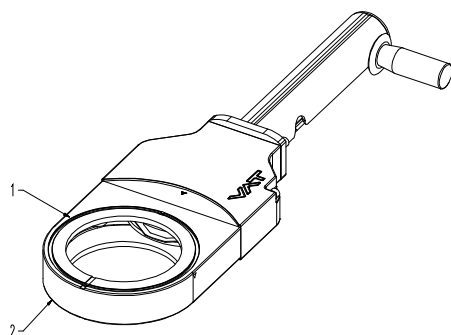

Figure 4-1
see (1) and (2) according to «Figure 4-1».